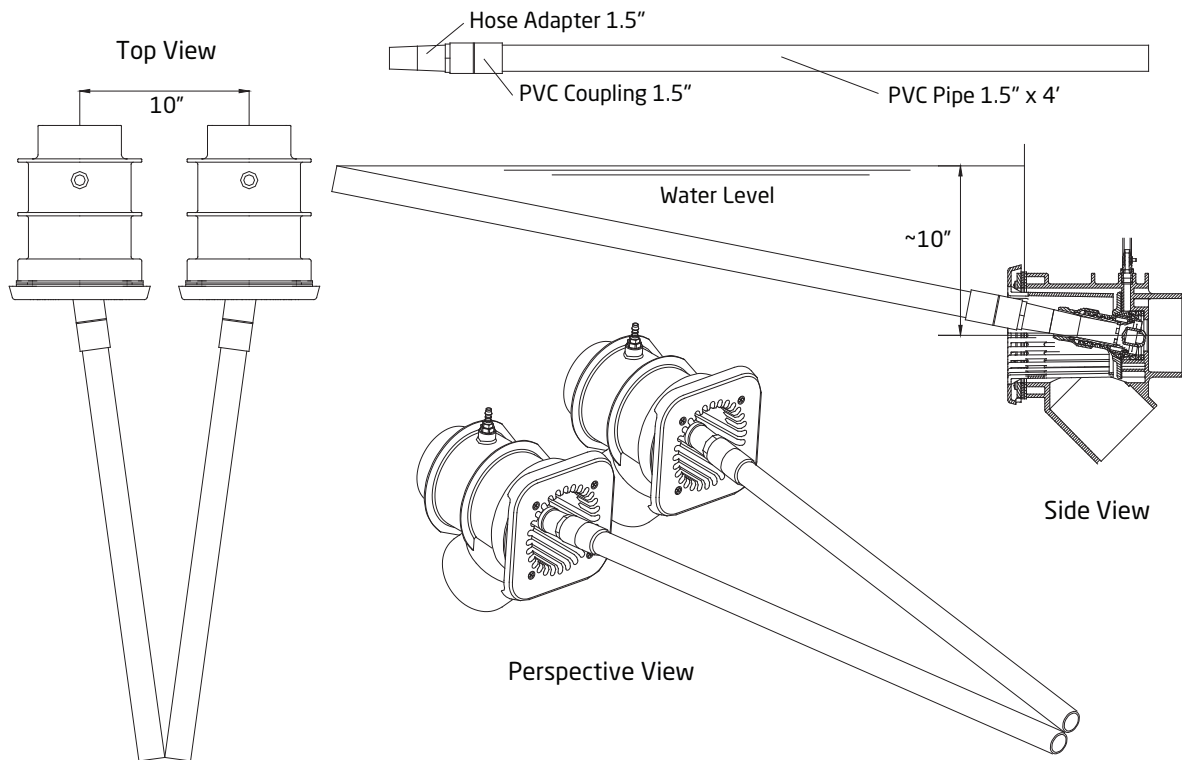

Figure 16
4. Bring the ends of the adjustment tools together so they are touching in between the jet housings. Then raise the tools so the ends touch the water surface. (See Figure 16)